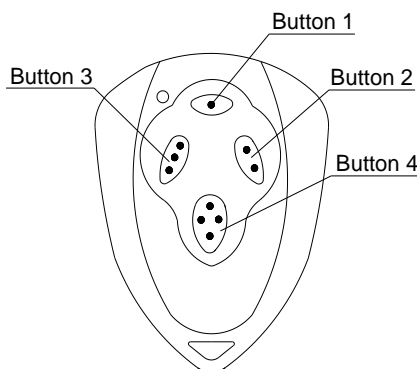

Fig.13
- The remote control works in three-channel mode (1-open, 2-close, 3-stop, 4-not used) See Fig.13.